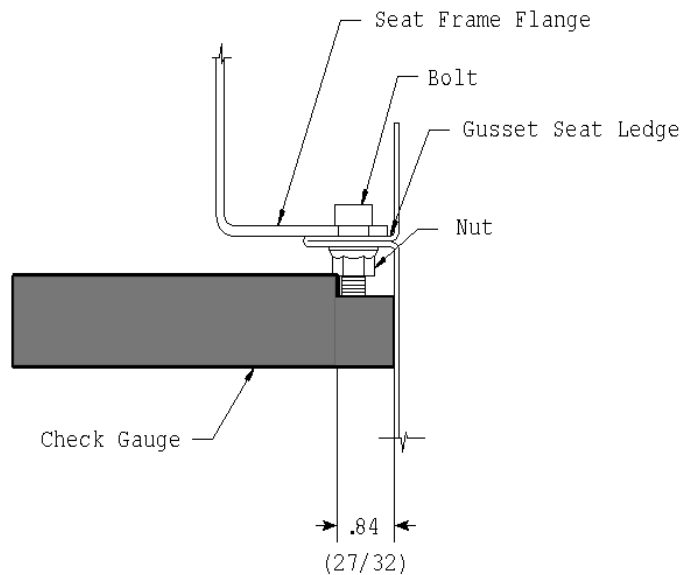

Figure 2
Place check gauge at centerline of each bolt that attaches seat frame to wall ledge. See Figure 2. If check gauge contacts bolt and **does not** contact bus sidewall, check “F” (Failed) on inspection sheet as indicated for each bolt position. If the check gauge contacts sidewall while lined up with centerline of bolt, check “P” (Passed) on inspection sheet as indicated for each bolt position. See Figure 2. *NOTE: When checking position of bolt from sidewall be sure check gauge is below nut as shown in Figure 2.*
- b) If bus sidewall to bolt dimension fails when checked with check gauge, (see Figure 2 in Inspection Procedures) back drill 11/32" (0.343) diameter hole using rear hole in seat frame mounting bracket as a guide. Remove nuts from bolts located in front and middle holes. Place additional bolt (1032283) in hole drilled at rear of bracket. Install bracket (0007142) with three bolts (1032283) and nuts (0829390). Torque all fasteners to 18-20 ft. lbs. See page 2 of instructions for illustration of bracket installation.